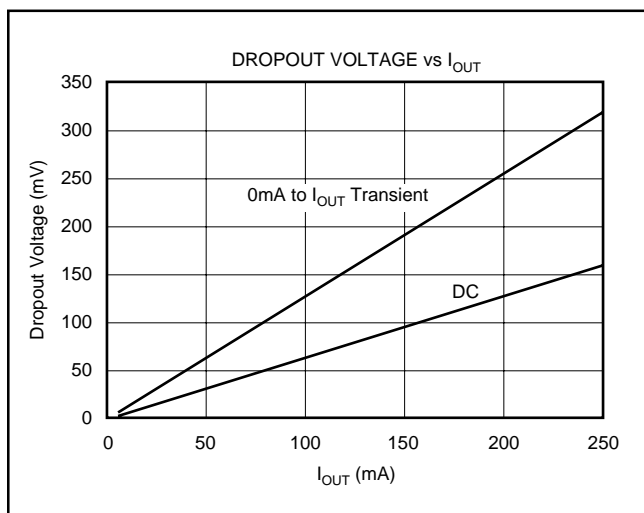

FIGURE 6. Transient and DC Dropout.
The REG102 uses an N-channel DMOS as the pass element. When $(V_{IN} - V_{OUT})$ is less than the drop-out voltage (V_{DROP}), the DMOS pass device behaves like a resistor; therefore, for low values of $(V_{IN} - V_{OUT})$, the regulator input-to-output resistance is the $R_{DS(ON)}$ of the DMOS pass element (typically $600m\Omega$). For static (DC) loads, the REG102 typically maintains regulation down to a $(V_{IN} - V_{OUT})$ voltage drop of 150mV at full rated output current. In Figure 6, the bottom line (DC dropout) shows the minimum V_{IN} to V_{OUT} voltage drop required to prevent dropout under DC load conditions.
For large step changes in load current, the REG102 requires a larger voltage drop across it to avoid degraded transient response. The boundary of this transient drop-out region is shown as the top line in Figure 6 and values of V_{IN} to V_{OUT} voltage drop above this line insure normal transient response.